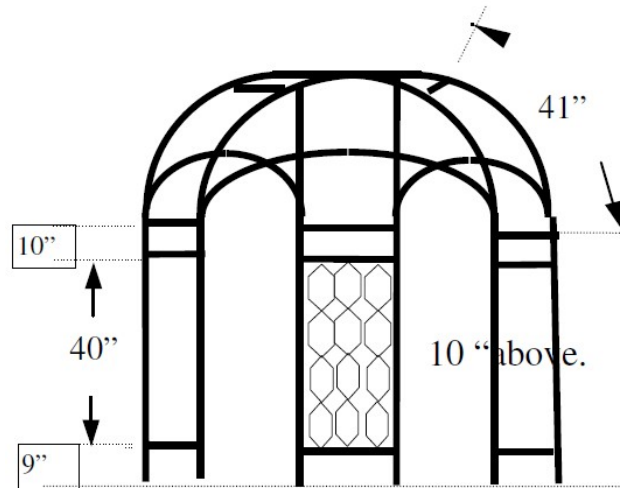

Figure 6: Round Gazebo Spacer Bar Distances
- Slide 2 Spacer Bars with Ring Clamps onto each pair of uprights, tightening the grub screws once the Spacer Bars as positioned as illustrated in Figure 6. This may require to remove the moisture seals from the uprights.
- Also check the positioning of the Spacer Bars on the Gazebo top, as shown in Figure 6.